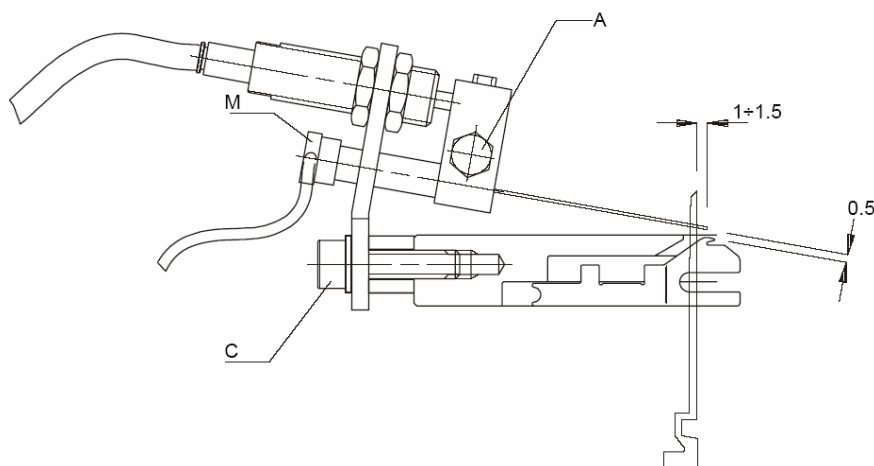

图 4-27 (Fig.4-27)
Remove one needle and insert a needle without butt; raise it manually to the height height indicated in Fig.4-27. Then adjust the depth of the rod using the adjusting screw (A), so that the rod tip passes the needle by at least 1~1.5mm. Once the adjustment is completed, replace the broken needle with a normal one.